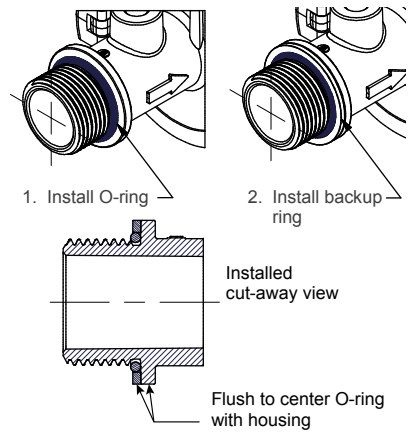

Figure 6
The BSPP meter includes a plastic bag containing (2) O-rings and (2) backup rings that must be installed onto the meter. They are used for sealing the fitting ends of the meter to process piping. Before installing the meter, install an O-ring in the O-ring gland on each housing end, then fit a backup ring over each O-ring (see Figure 6). The BSPP meter is now ready for installation. Hand tighten the meter at the housing ends. **DO NOT** use a wrench or similar tool to tighten as this can damage the housing.